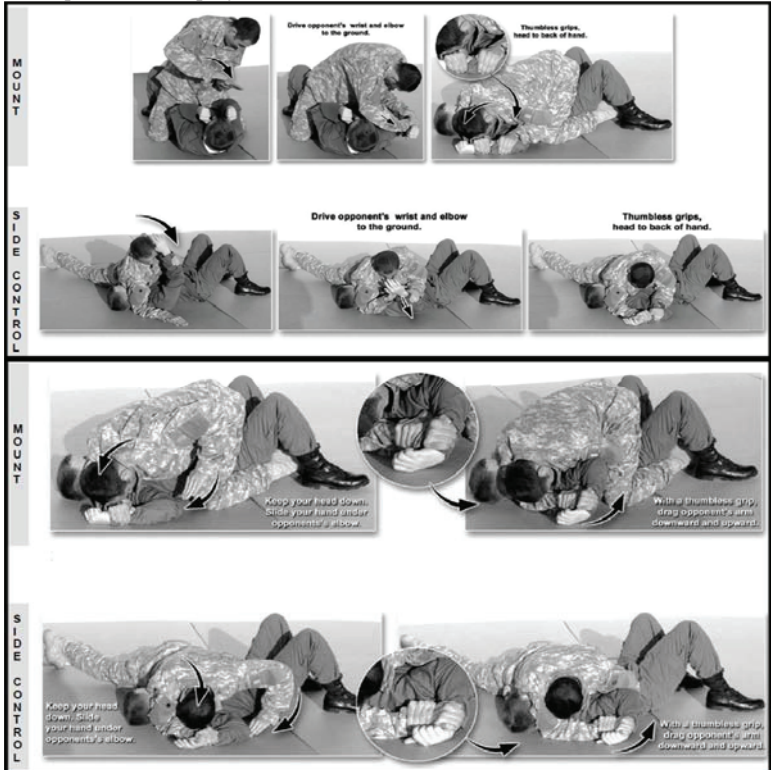

Figure 071-COM-0512-11. Bent Arm Bar.
c. Achieve the Bent Arm Bar from the Mount and Side Control. (Figure 071-COM-0512-11)